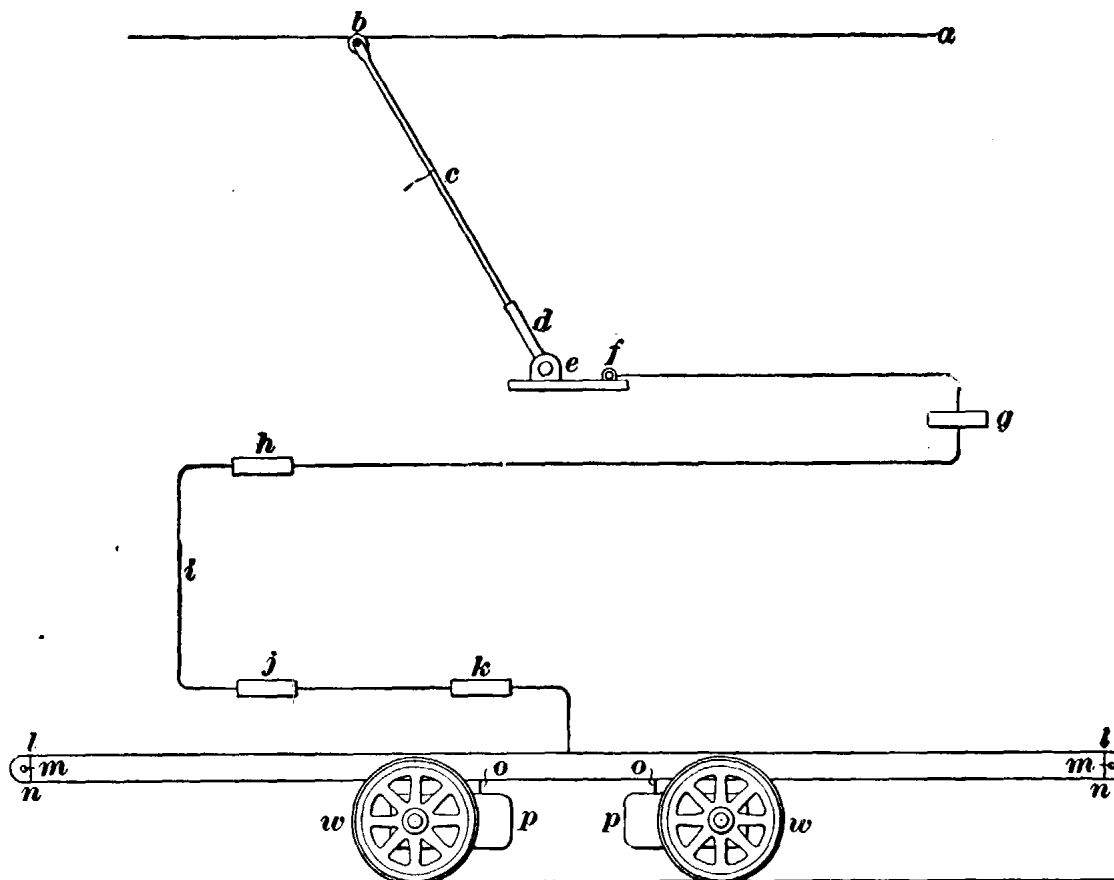

FIG. 1.
1. Trunk Wiring.—Fig. 1 indicates the trunk wiring of an ordinary car and shows those devices, outside of the motors and controllers, that are necessary for the operation